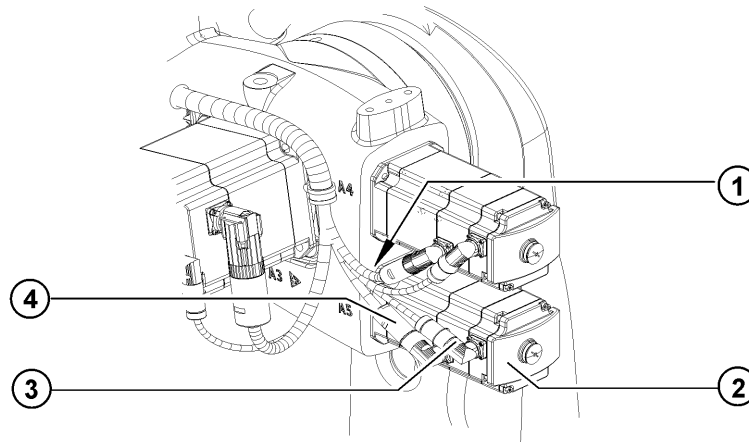

Fig. 11-13: Removal of motor A5
1. Release and unplug connectors XM5 and XP5 at the sockets (>>> Fig. 11-13).
7. Clean the mounting surface for motor A5 on the arm (>>> Fig. 11-13).